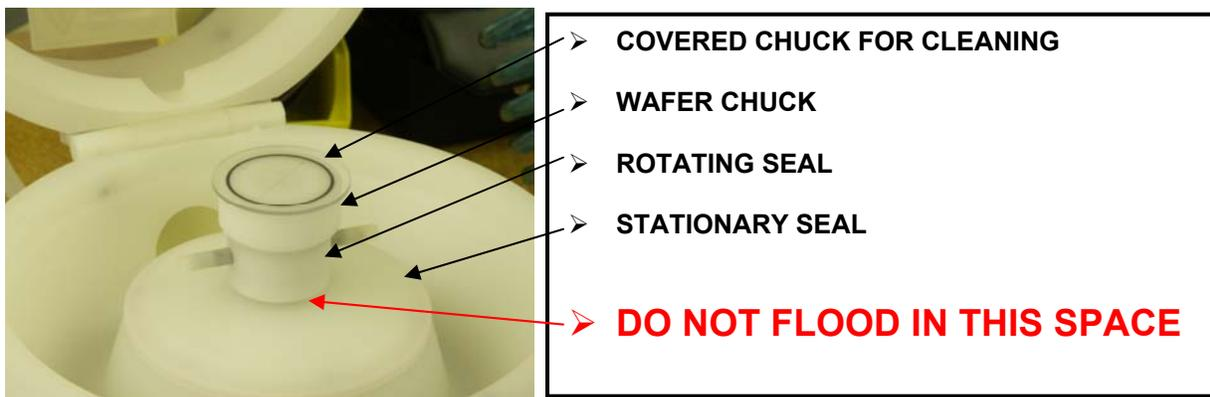

Figure 4-1
- **ALSO DO NOT FLOOD THE SPACE BETWEEN THE STATIONARY SEAL AND THE ROTATING SEAL. THIS CAN CAUSE LEAKAGE INTO THE LOWER HOUSING CAUSING MOTOR OR ELECTRONICS DAMAGE.** See Fig. 4-1 below. Do not fill up and overflow the process bowl or spray excessive amount of chemistry into this space.